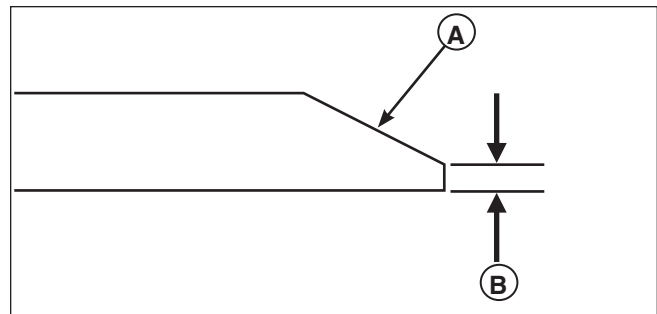

Figure 11. Sharpening the Mower Blade
3. Keep the original bevel (**A, Figure 11**) when grinding. **Do not** change the mower blade bevel.